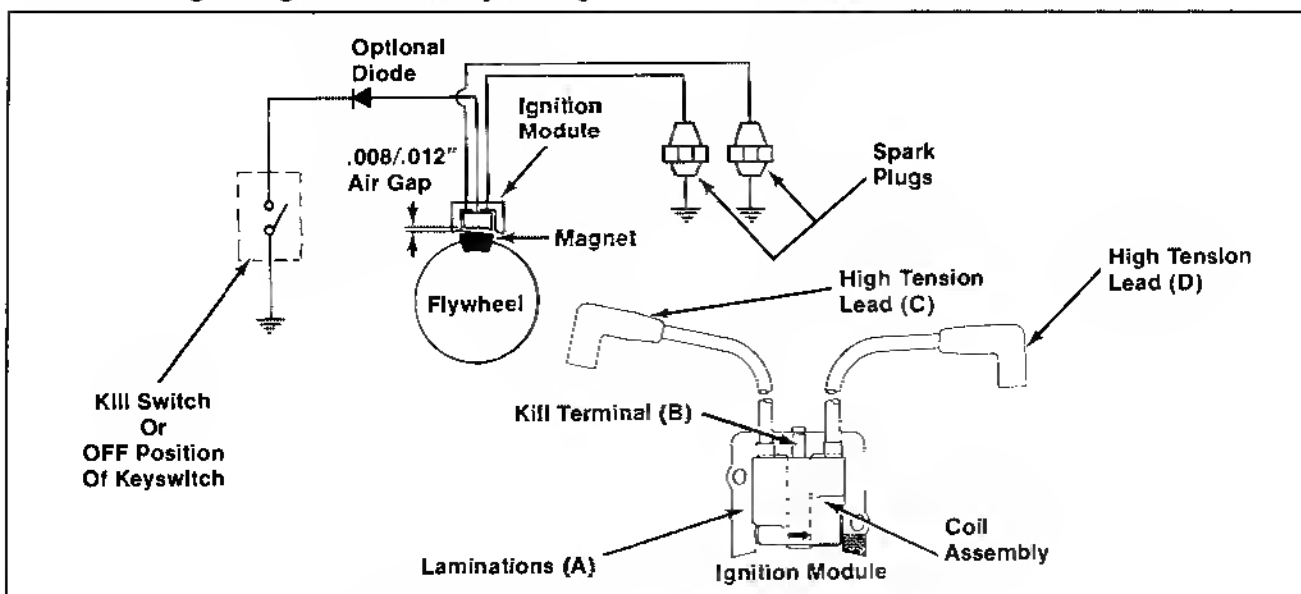

Figure 8-1. Magnum Electronic Magneto Ignition System.
This engine is equipped with a state-of-the-art electronic magneto ignition system. The system consists of the following components (refer to Figure 8-1):
4. Measure the secondary resistance of module using an ohmmeter. Refer to Figures 8-1 and 8-4.  NOTE: Module must have been "fixed" to perform Test 4.  <div style="display: flex; justify-content: space-around;"><div>Secondary Leads/Terminals C - D</div><div>Secondary Resistance 22,000/42,000 ohms</div></div>	If resistance is within range, module secondary is OK.  If resistance is low or 0 ohms, module secondary is shorted. Replace module.  If resistance is high or infinity ohms, module secondary is open. Replace module.